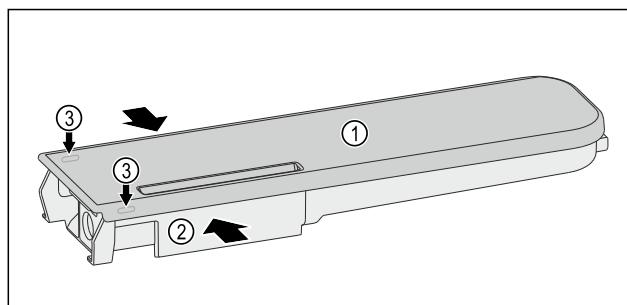

Fig. 130
- Push the water tanks Fig. 130 (2) together, leverage the cover Fig. 130 (1) carefully over the latching tabs Fig. 130 (3) and lift it up.
- Move the cover Fig. 130 (1) slightly forwards and back, and remove to the top.